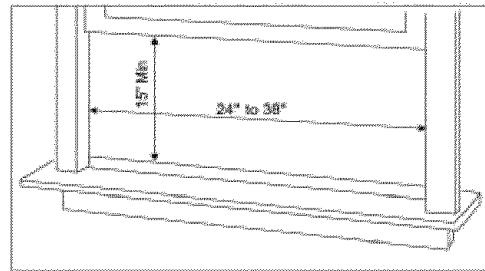

Fig. 1
1. If your air conditioner cabinet 18" wide, it will fit window openings 24" to 38" in wide. Minimum opening height is 15" from bottom of sash to sill (Fig. 1).